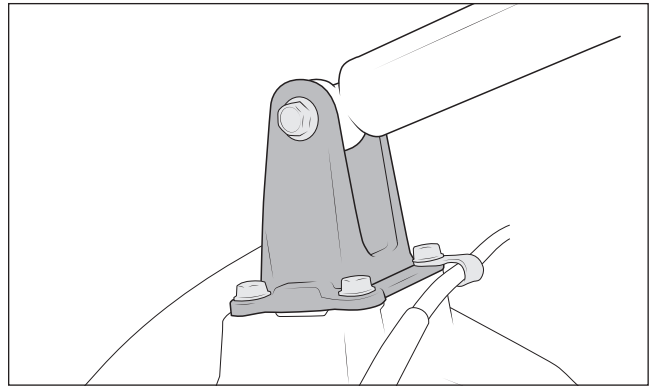

Figure 4
7. Remove the power hop bracket and save the hardware – if equipped (fig. 4).